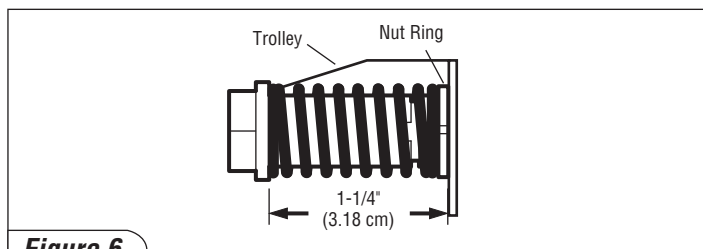

Figure 6
9. Reset the belt tension by tightening the spring nut by hand. Place an open end wrench on the square end of the spring nut and tighten clockwise until spring is compressed to 1-1/4" (3.18 cm). This sets the spring to optimum tension. Belt may slip off sprocket if belt is too loose. If belt does slip, reset belt and re-tighten spring nut by turning nut clockwise an additional 1/2 turn. **Do NOT over tighten belt** (Figure 6).